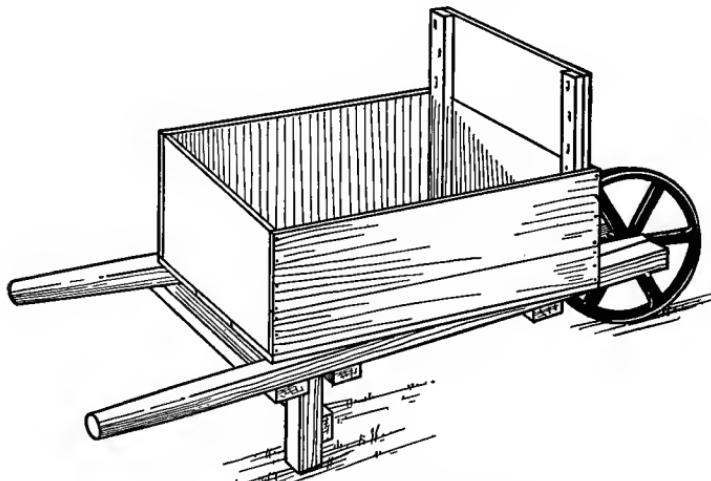
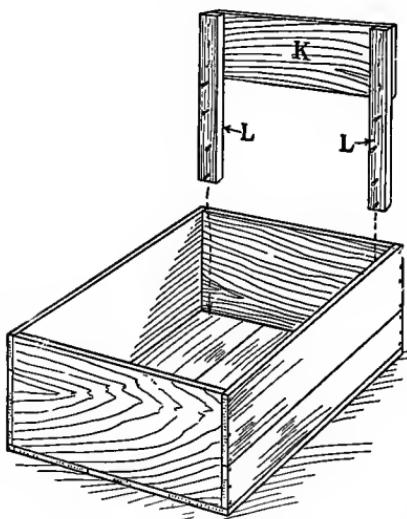

FIG. 583.—A Home-Made Wheelbarrow.
FIG. 591. — Detail of the Wheelbarrow Box. driven in to fill the space,
A Home-Made Wheelbarrow like that shown in Fig. 583. This is a barrow designed for practical purposes, and is
**The Wheelbarrow Box** is made of a grocery box about 9 inches deep, 18 inches wide, and 24 inches long. Re-nail any boards that show signs of coming loose; then, to increase the height of the box at the front, cut a piece of 8-inch board equal to the inside width of the box (*K*, Fig. 591), and by means of the two battens *L* fasten it in place as shown in Fig. 583.